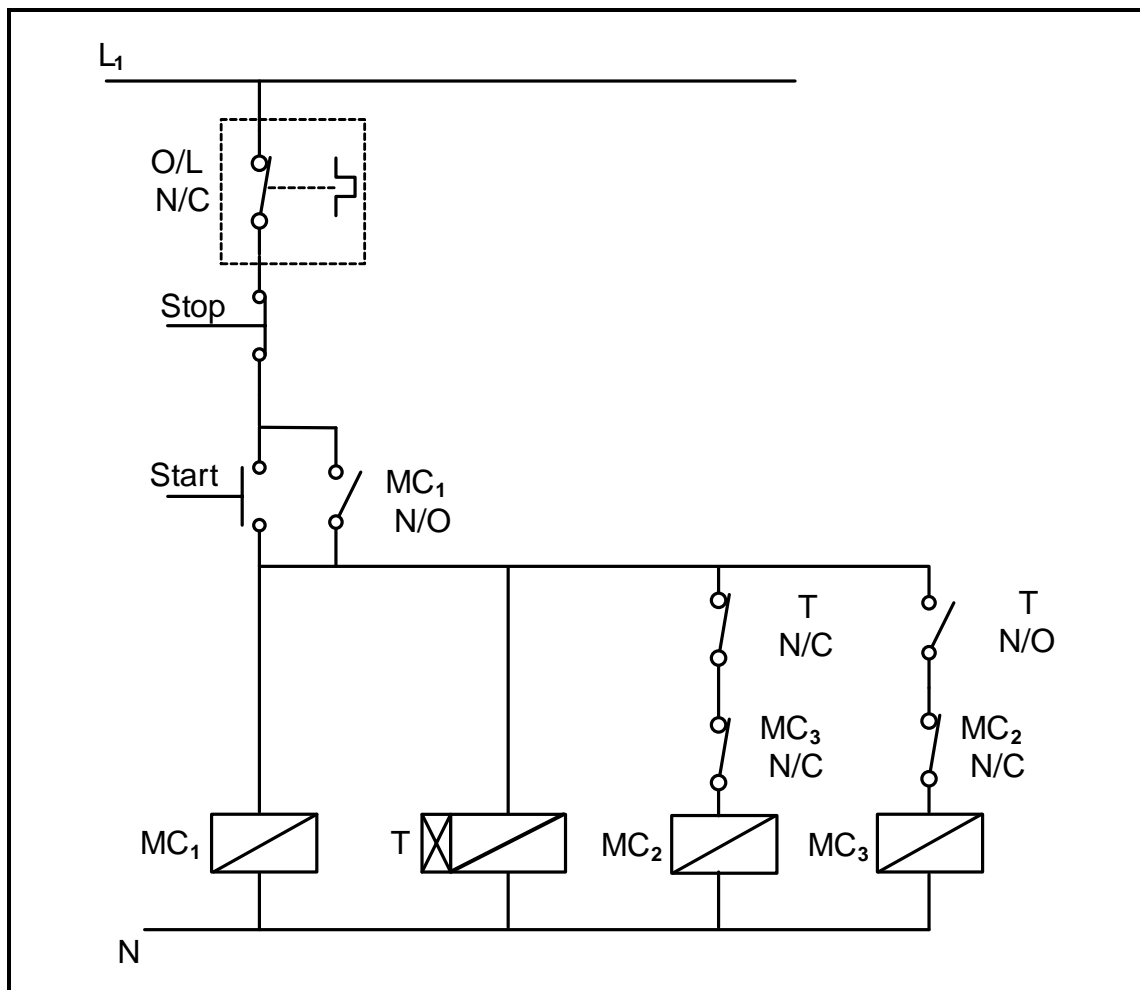

FIGURE 6.4: AUTOMATIC STAR-DELTA CONTROL CIRCUIT
6.4 FIGURE 6.4 below shows the control circuit of an automatic star-delta motor starter with contactor T set to 5 seconds. Answer the questions that follow.